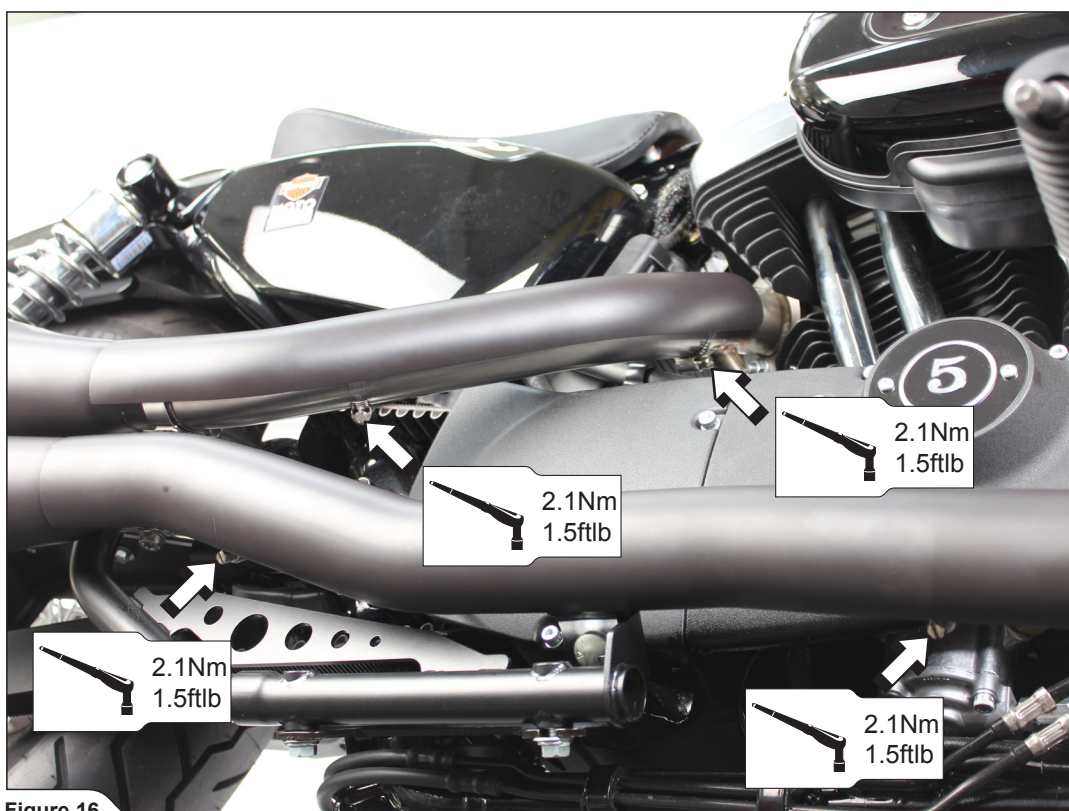

Figure 16
9. Assemble heat shields onto the headers. Align the heat shields in respect to the header tubes and tighten all tape clamps (Figure 16, 17).